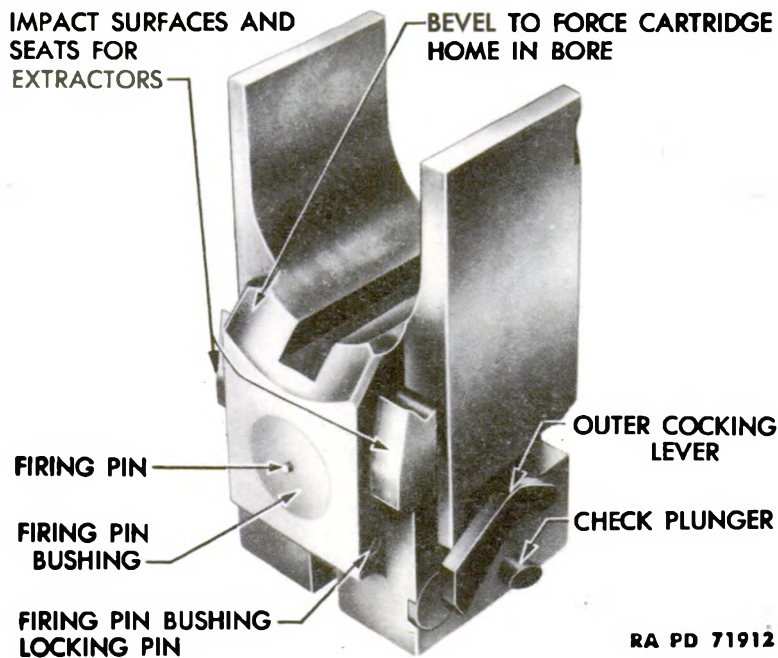

Figure 12 – Breechblock Assembly – Front View
(1) The breechblock (figs. 12 and 13) is roughly rectangular in shape. A U-shaped portion of the upper center is cut away to permit loading and unloading of the weapon when the breechblock is lowered (breech open). A groove is cut in the lower part of the “U” for the finger of the breech ring barrel catch. A square projection on the front surface of the block is beveled at the top to force the cartridge case home as the breechblock slides upward to closed position.
(2) Impact surfaces and hook-shaped seats are provided at the sides of the front of the breechblock for the cartridge case extractors. Horizontal grooves in the sides of the breechblock are provided for the lugs of the breech ring inner cranks which force the breechblock downward and upward to open and closed positions.
(3) The outer cocking lever is located on the lower left side of the breechblock. Its shaft runs from side to side through a bore near the bottom of the breechblock. A groove is cut in the bottom from front to rear for the inner cocking lever which is mounted on the splined shaft of the outer cocking lever. The check plunger occupies another bore which extends from side to side near the bottom of the breechblock.
(4) The breechblock is bored from front to rear. This bore is closed at the front by the firing pin bushing (fig. 12) and at the rear by the firing pin spring cover (fig. 13). This bore houses the firing pin and the firing pin spring. Some breechblocks have a solid front face, no bushing, only a hole for the tip of the firing pin.